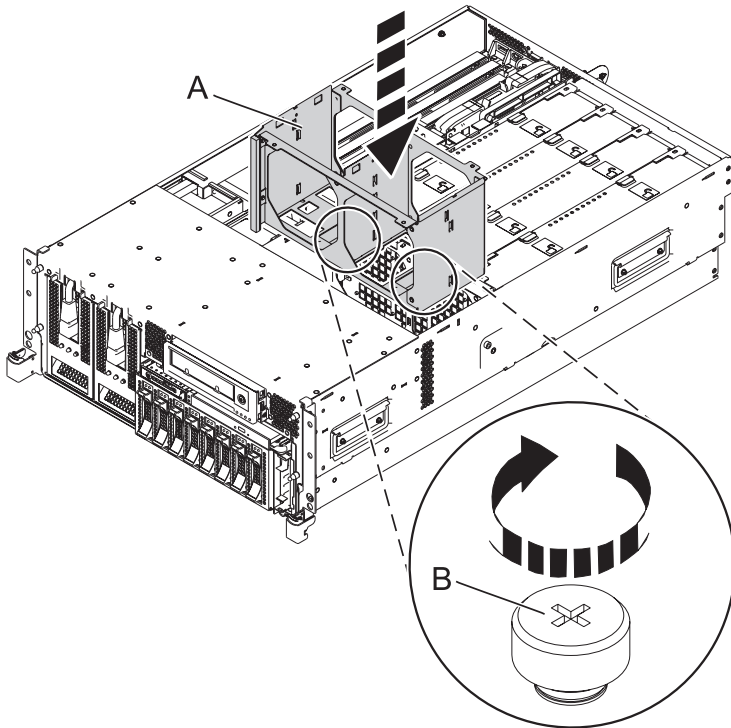

Figure 15. Replacing the fan cage
9. Replace the Slimline media device by inserting it into the slot and pushing it in until the lever (B) locks into place, as shown in the following figure.
- a. To replace the fan cage (A), align the locator pins through the holes, and tighten the two thumbscrews (B), as shown in Figure 15.